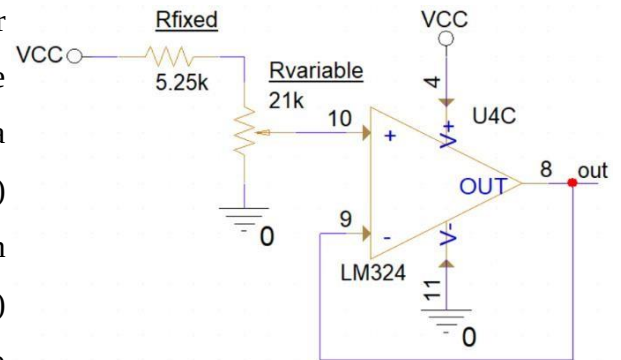

Figure 2. Resistance to Voltage Conversion
In this section we change the sensor resistance caused by the weight into a voltage that the circuit can process. This is done using a voltage divider made of a fixed resistor (R_{fixed}) and the sensor resistance ($R_{variable}$), as shown in Figure 2. As the sensor resistance ($R_{variable}$) changes the output voltage (V_{sensor}) also changes according to relation (2):